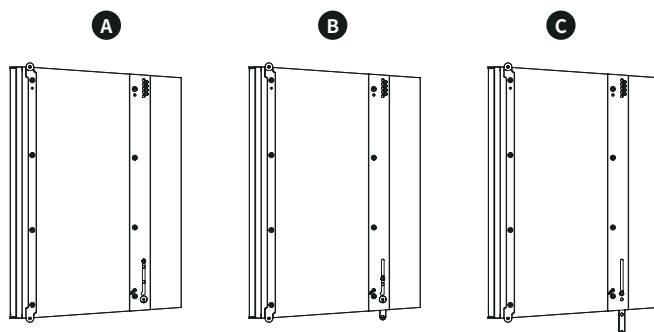

Figure 8. Rear rigging piece in M-F3A FS subwoofers.
- Lowest hole: to hide completely the moving bar when no other device will be added below the flyable subwoofer, or for its safe storage and transport. See drawing **A** in figure 8.
- Upper hole: to link another M-F3A FS below. In this position the bar is completely out and defines the splay angle of the next subwoofer. See drawing **C** in figure 8.